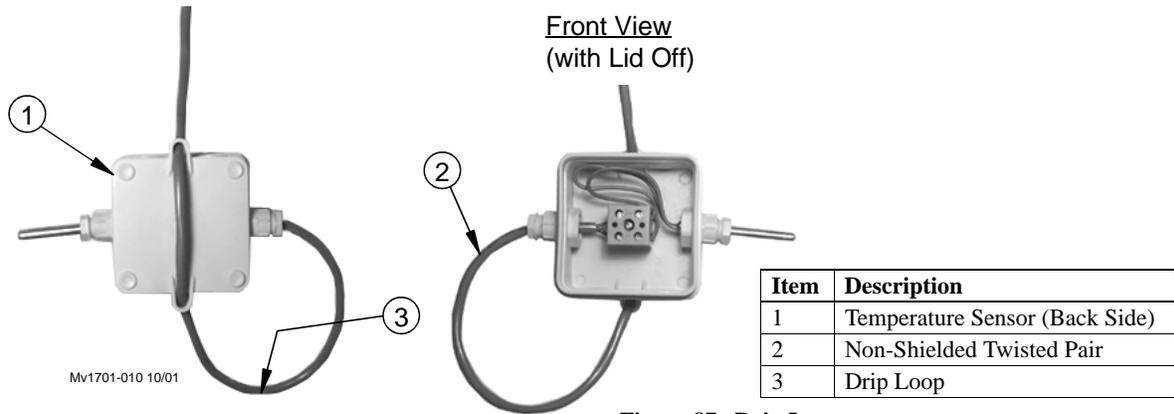

Figure 87. Drip Loop
Route the wire through the back of the Temperature Sensor and connect it as shown in **Figure 87** below. Pull the wire through the back of the box until a drip loop is formed as shown.
Note: Terminal #1 on the relative humidity sensor is connected to the +24 v terminal on the IO board (see diagram). This is the same +24 v terminal used by the Static Pressure Sensor. Terminal #2 on the Relative Humidity Sensor is connected to the Analog Input (AI) terminal of the analog Input being used (**See Figure 87**). Terminal #3 is connected to the ground terminal of the Analog Input (AI) being used. Make sure that the Blue Jumper above the Analog Input that the RH sensor is connected to is set to "U".